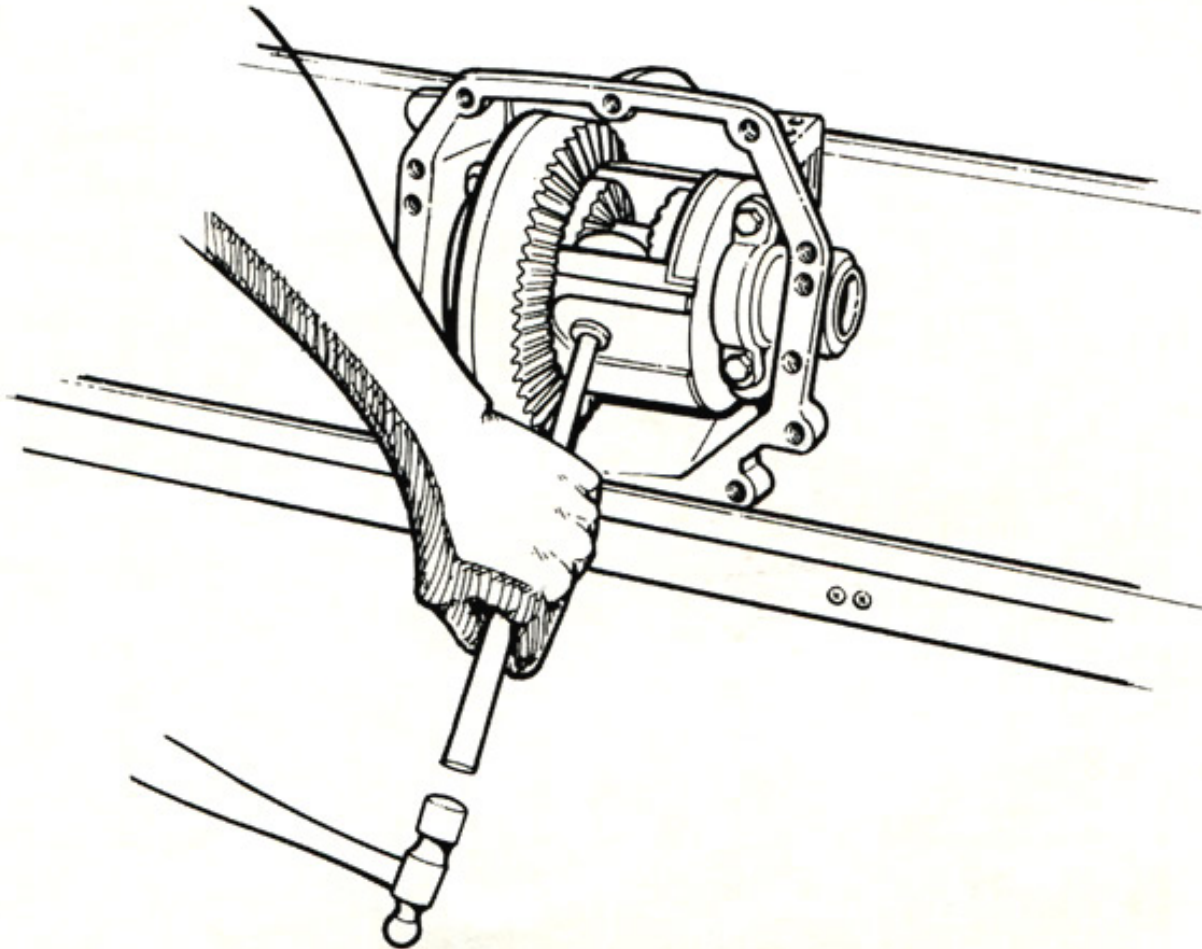

FIGURE 1
5. Rotate case assembly to position illustrated in Figure 1. With appropriate size drift and small mallet, lightly tap on cross shaft to determine if movement of shaft can be achieved.